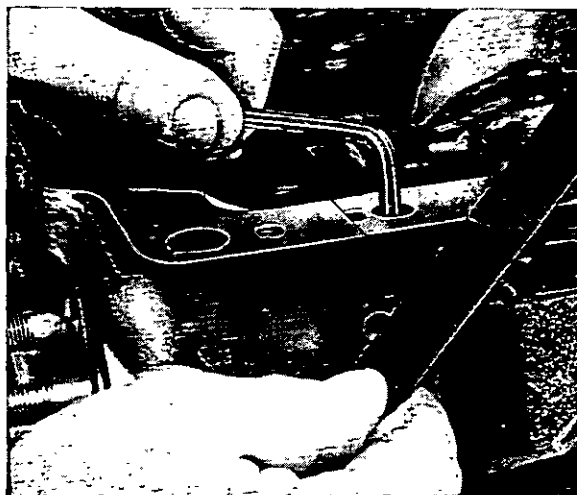
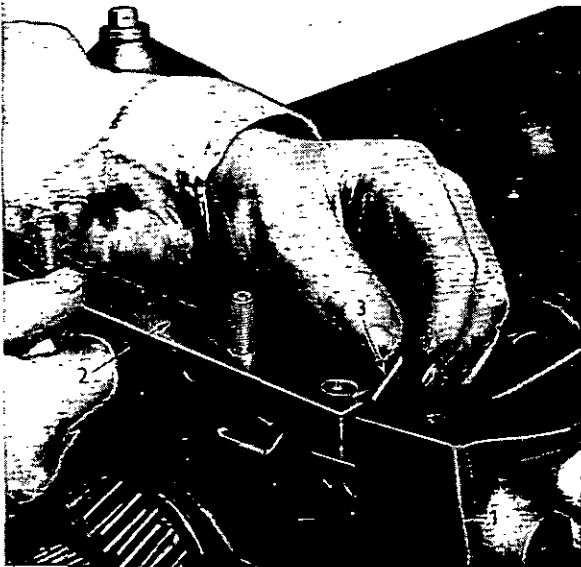

Fig. H.2. Aligning Bridge Piece to Block Face.
Fig. H.4. Fitting Main Bearing Bridge Piece Oil Seal.
11. Refit the front and rear bridge pieces to the cylinder block (Fig. H.4). Check that the end faces of the bridge pieces are flush with the end faces of the cylinder block (Fig. H.2).